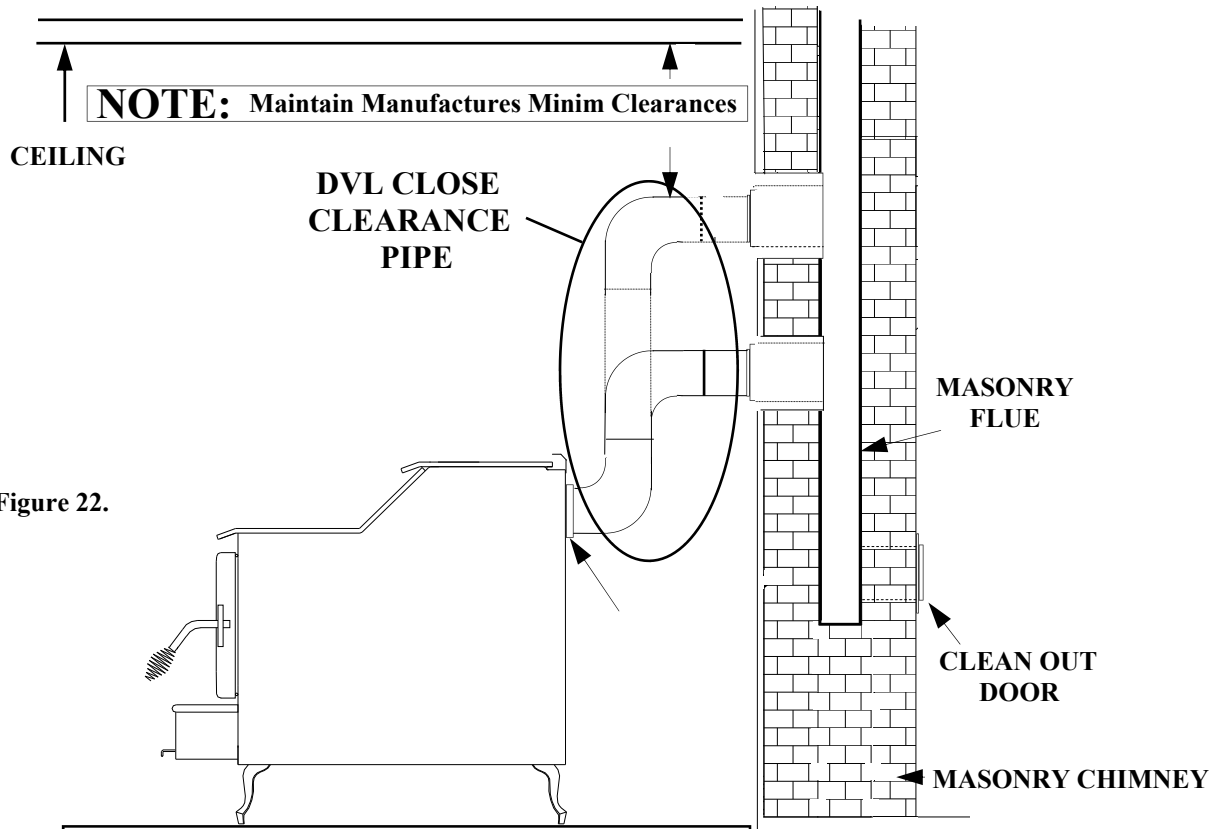

Figure 22.
(See Page 27, Figure 22.)
3. Measure up so there will be at least 1/4" rise per foot of horizontal connector pipe, maintaining clearances to the ceiling as noted in Page 27, Figure 22. This will give you the center of the hole for the chimney penetration.
- (c) Secure each section to each other using at least three (3) sheet metal screws or rivets.
- (d) Use three (3) sheet metal screws to fasten DVL Close Clearance Pipe to New Buck Cast Collar on heater. after New Buck Cast Collar Part# MA6CHIMCNB has been attached to stove. (See Page 27 Figure 22).